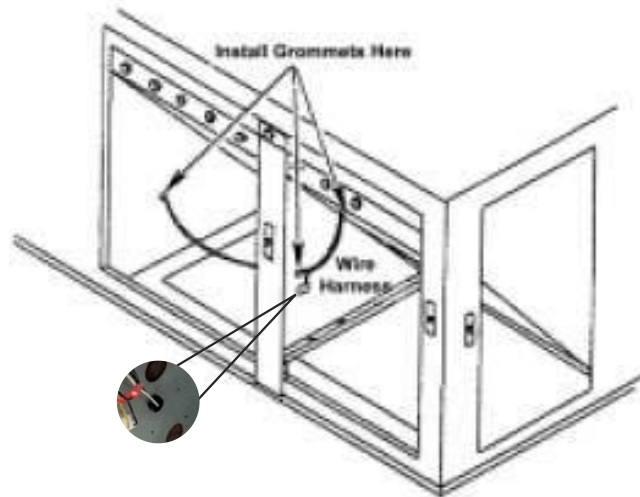

Figure 18 - Grommet Installation Locations
- c. Uncoil the remaining wiring harness and route it through the round hole in the top flange. Allow the wires to hang in the OA compartment. See Figure 18 for wiring grommet locations.